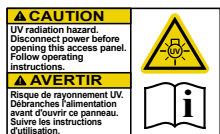

Fig. 3 Disconnect power before opening any doors or access panels bearing this label. See page 9.
- Doors and access panels bearing the ultraviolet radiation hazard label, which may have UV-C SPECTRAL IRRADIANCE greater than $1.7 \mu\text{W}/\text{cm}^2$, are provided with an interlock switch to interrupt the power to the UV-C LAMPS for your safety. Do not override. See figure 3.